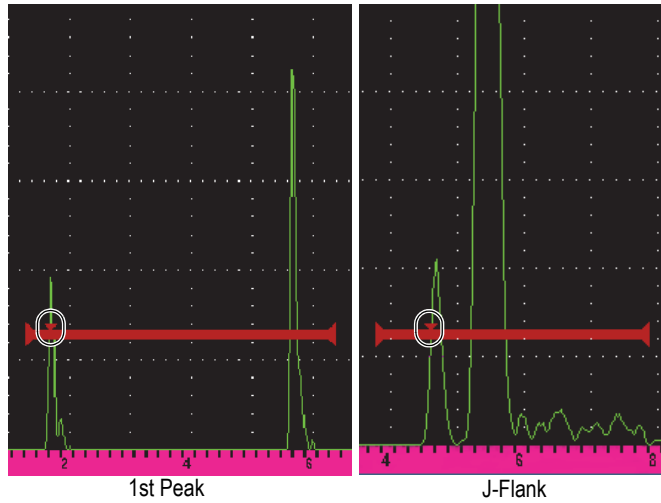

Figure 3-11 Trigger in 1stPeak, and J-Flank modes
- **1stPeak:** Acquires measurement readings based on the first peak to cross the gate threshold (level). See Figure 3-11 on page 73.
- **J-Flank:** Acquires thickness measurement readings based on the position of the first crossing point of a gated signal and amplitude measurement readings from the highest peak of the first echo in the gated region (see Figure 3-11 on page 73).